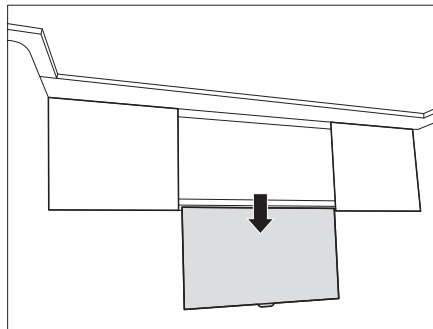

Fig. 137 Flat screen in bottom position
- Pull down the flat screen by the handle (Fig. 137).